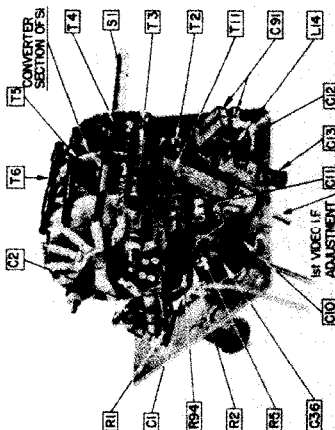

Fig. 10. R-F Head and Assembly, Oblique View
| 19       | 193.25 MC and 203.75 MC    | 198.5 MC with 25 MC sweep | Primary of antenna input transformer T1 | R5 and C10 through 10K ohm resistor. Disconnect C10. | Channels #10-#11 | Check and adjust inductance if necessary for max. amplitude and flat response with correct mark $e_{TH}$ . | Adjust inductance by brass screws in coils. See Fig. 10(C) for resultant curve. |